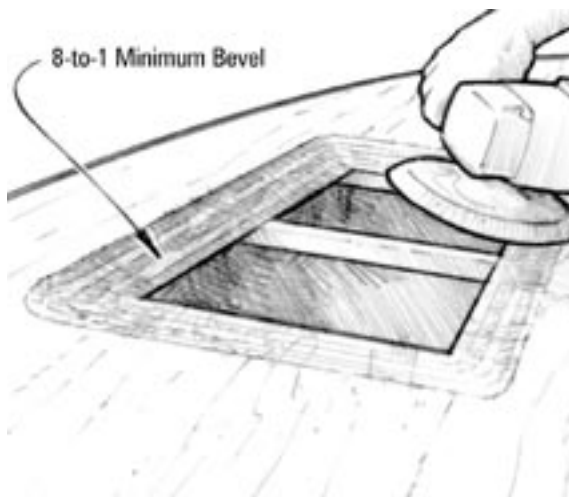

Figure 6-12 Cut out the damaged area and grind a minimum 8-to-1 bevel on all sides of the opening.
- a. Grind a scarf on the edges with a disc sander (*Figure 6-12*). Grind a minimum 8-to-1 bevel back from the edges of the opening. (If the panel plywood is 12mm thick, the bevel should extend at least 100mm from the edge of the hole on each side.)